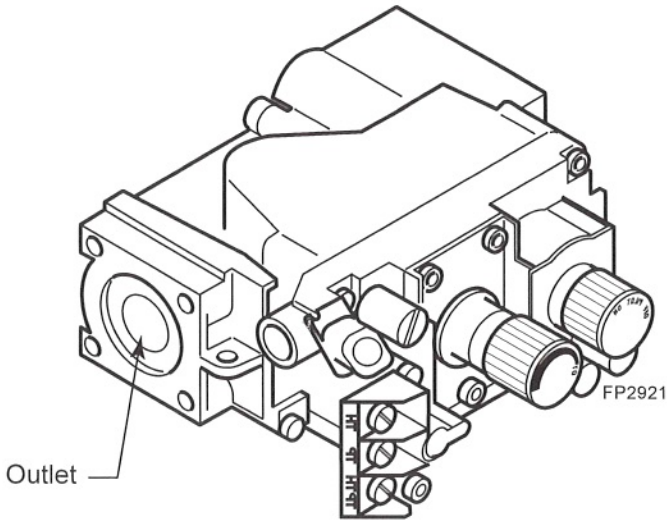

Fig. 2 SIT Valve
4. Install gas valve to bracket. **IMPORTANT: Make sure the gas valve is oriented properly. The valve outlet is on the same side as the terminal block.** Figure 2